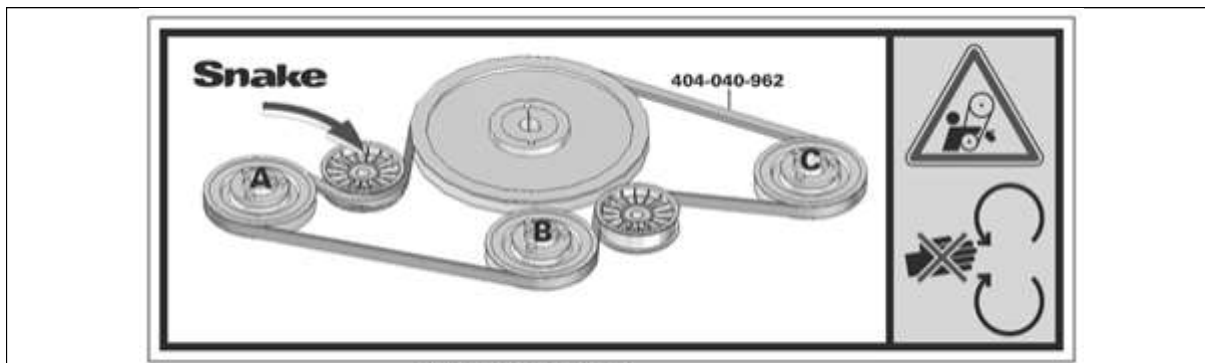

Fig. 42
14. Fit the new belt around the pulleys according to the label on the mower deck (Fig 42).